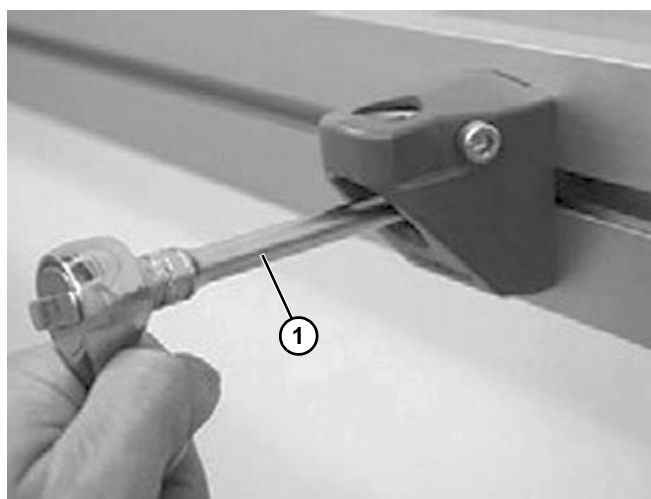

Figure 84
2. Attach the bracket onto conveyor beam and tighten with a socket wrench (**Figure 84, item 1**).